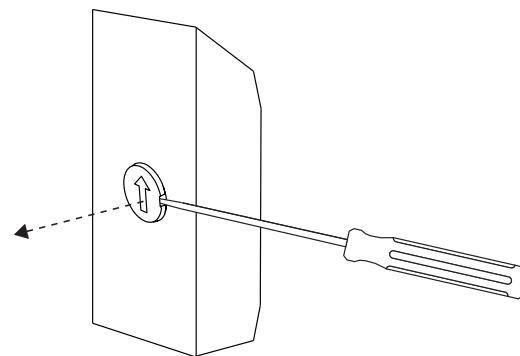

Figure 4: Removing the Transmitter Cap
1. To remove the transmitter cap, inserting a small flathead screwdriver into the cap notch and gently pry it away from the transmitter housing. Refer to Figure 4.